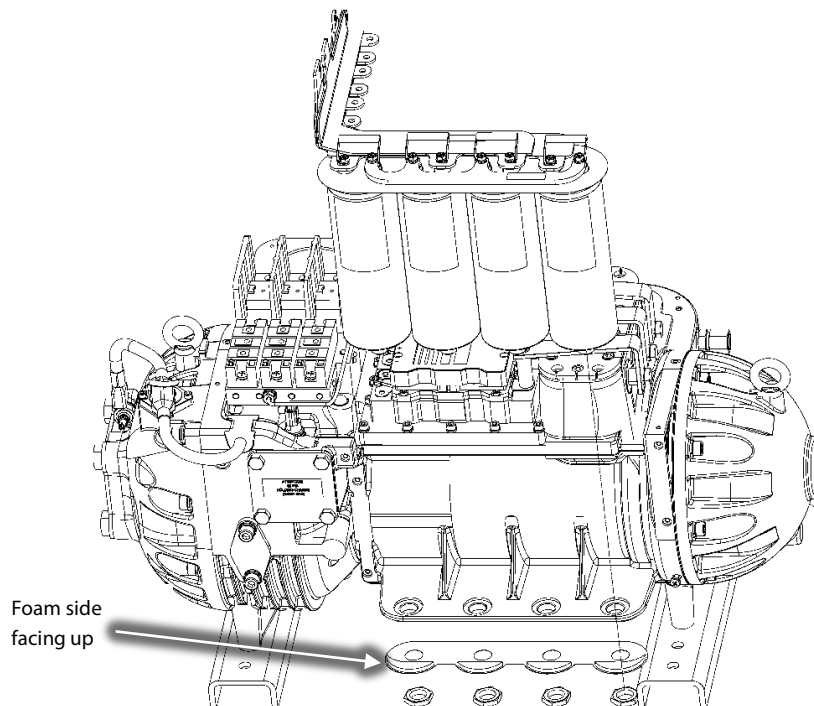

Figure 12 – Capacitor Assembly Removal
21. Carefully lift the DC Bus Bars and capacitors out as an assembly. Do not remove the bleed resistors or capacitors from the bus bars. Refer to Figure 12 (Capacitor Assembly Removal) (TT300 Shown).